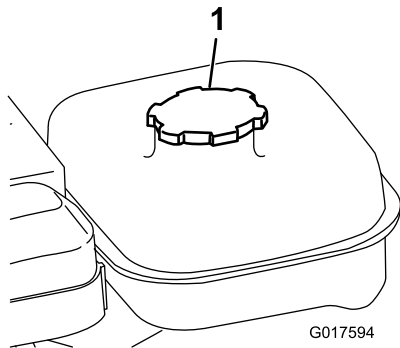

Figure 17
1. Clean around the fuel-tank cap and remove the cap from the tank (Figure 17).